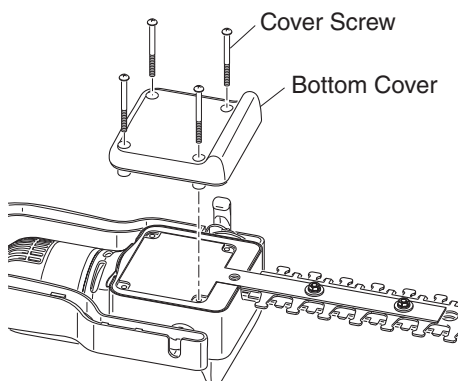

Figure 17 - Removing Bottom Cover from Trimmer Head
2. Place pole trimmer upside down on workbench and remove the four (4) bottom cover screws. Lift bottom cover off (see Figure 17).